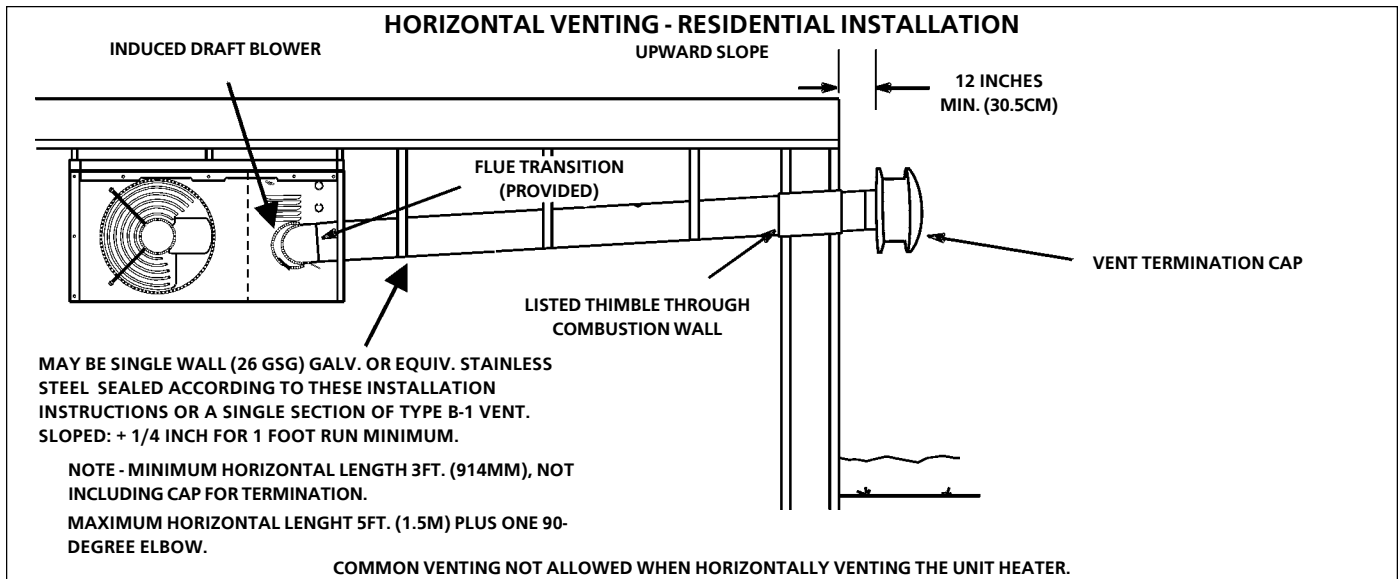

FIGURE 6
- For horizontal residential installations these units are certified as Category I appliances. The vent may be single wall material minimum 26 GSG (0.46mm) galvanized steel or equivalent grade stainless steel. **Venting A - General Recommendations and Requirements** and **C - Horizontal Venting General** and **E - Horizontal Venting - Residential**. Refer to **figure 6**.